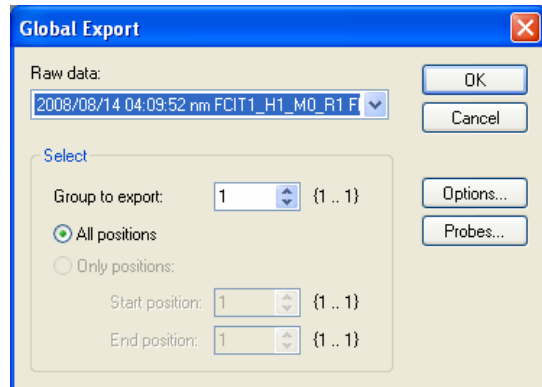

Figure 28: Global export window
7. Go to File/Global Export. The “Global Export” window, shown in Figure 28, opens.